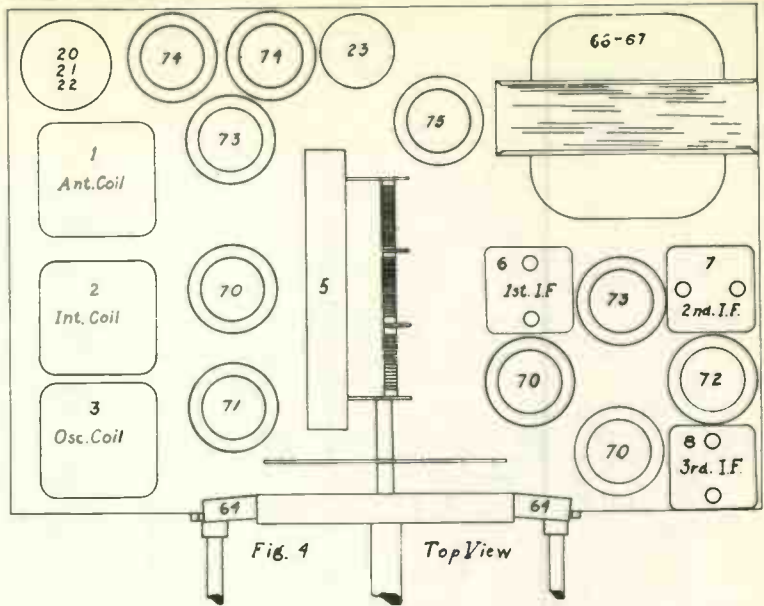

Fig. 4 Top View
- IV. (a) Peak both tuning condensers located on top of the first I.F. transformer shown on Fig. 4. NOTE: Be sure to use the lowest oscillator output that will give a reasonable scale deflection on the output meter. 30 to 90 volts output is satisfactory.
(b) Peak both tuning condensers located on top of the 2nd I. F. transformer shown on Fig. 4.
(c) Peak both tuning condensers located on top of the 3rd I.F. transformer shown on Fig. 4.